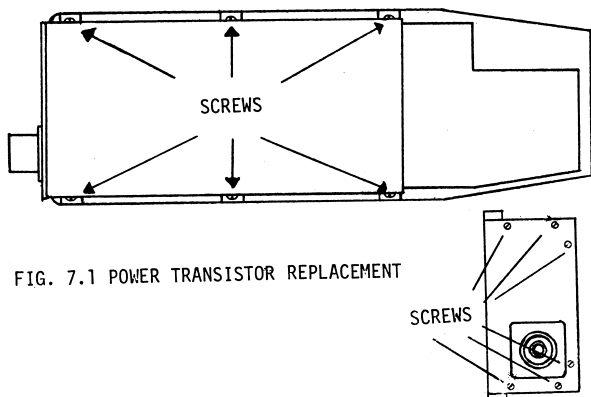

FIG. 7.1 POWER TRANSISTOR REPLACEMENT
- b. Undo the six self-tapping screws along the side of the stage and likewise the six small self-tapping screws along the edge of the rear plate, hereafter the cover can be removed. See fig. 7.1.